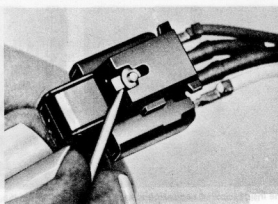

Fig. 10.27. Removing wiper switch from control arm (Sec. 24)
- 9 To remove the wiper switch from the operating arm, lift up the retaining clip, as shown in Fig. 10.27, and pull the switch off the arm.